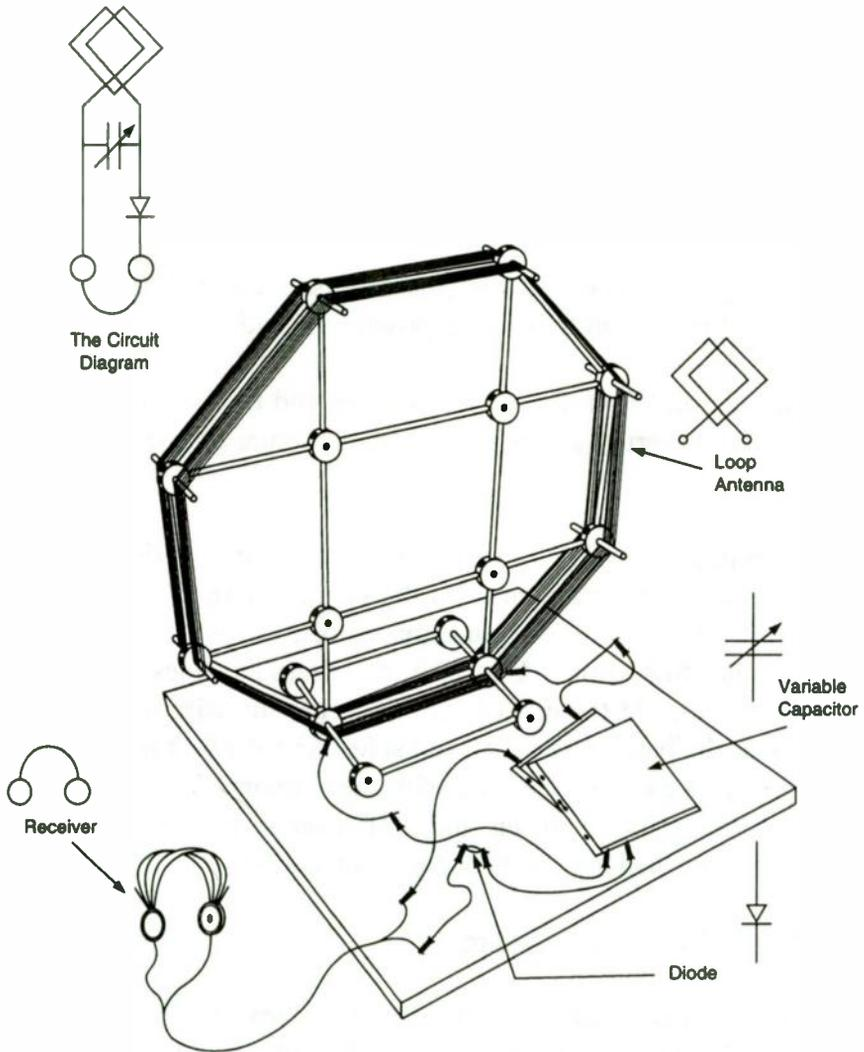

Figure 1: Low budget xtal set
1. Using the tinker toys, assemble a coil form for the loop antenna as shown in Figure 1. Press the joints together firmly to assure a rigid structure. It is suggested the center square made of the longest dowels be made first, then build from this.
3. Put the two foil lined paper protectors together to meet three conditions (see Figure 1):